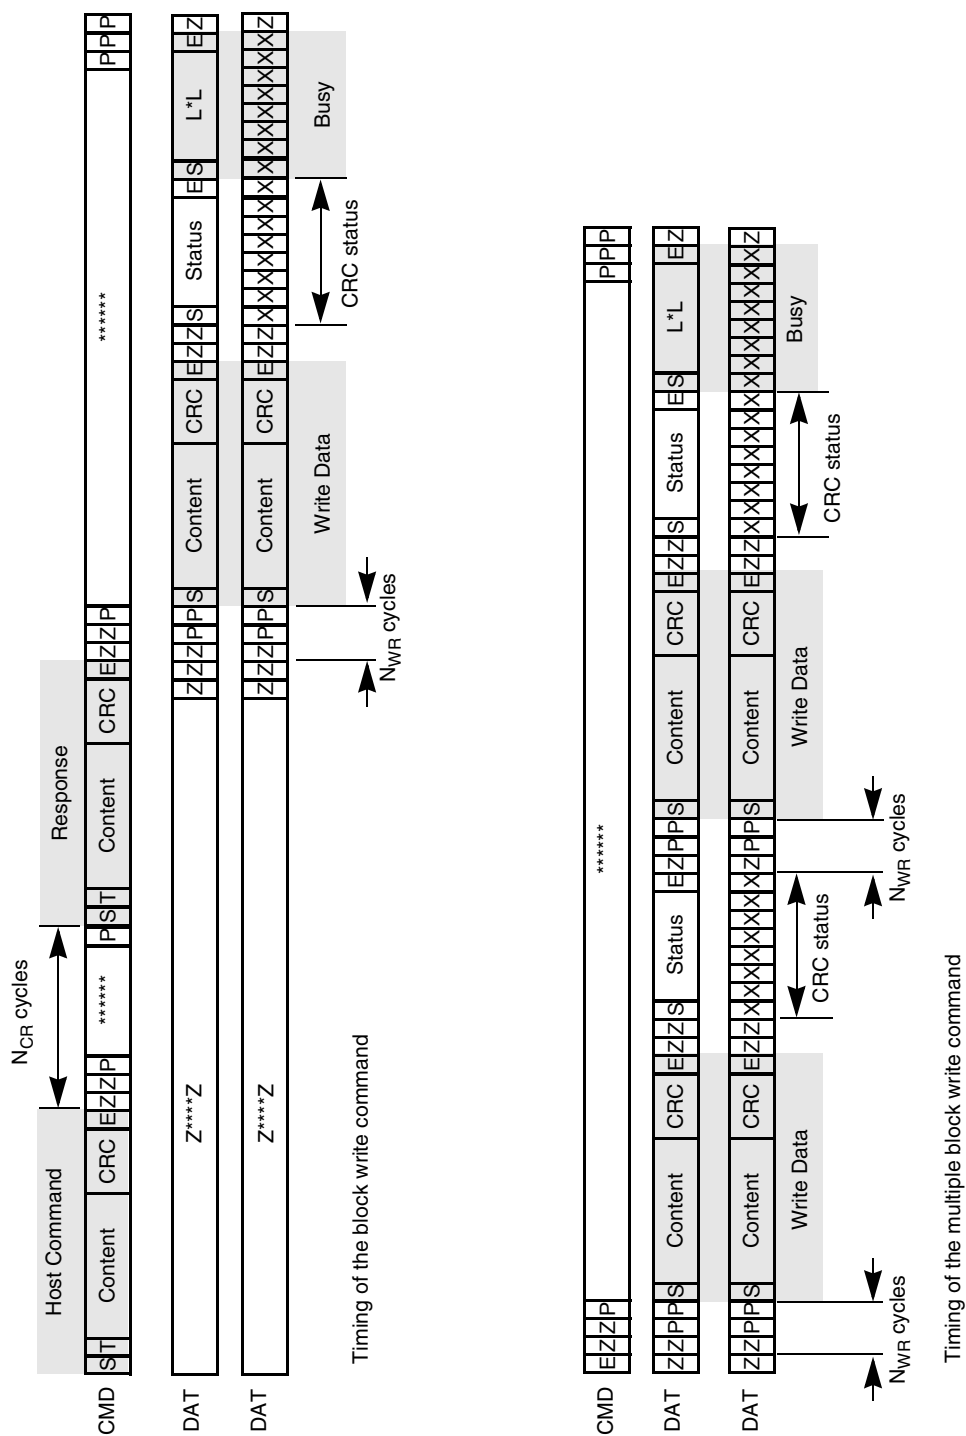

Figure 29. Timing Diagrams at Data Write
Figure 29 shows the basic write operation timing. As with the read operation, after the card response, the data transfer starts after N_{WR} cycles. The data is suffixed with CRC check bits to allow the card to check for transmission errors. The card sends back the CRC check result as a CC status token on the data line. If there was a transmission error, the card sends a negative CRC status (101); otherwise, a positive CRC status (010) is returned. The card expects a continuous flow of data blocks if it is configured to multiple block mode, with the flow terminated by a stop transmission command.